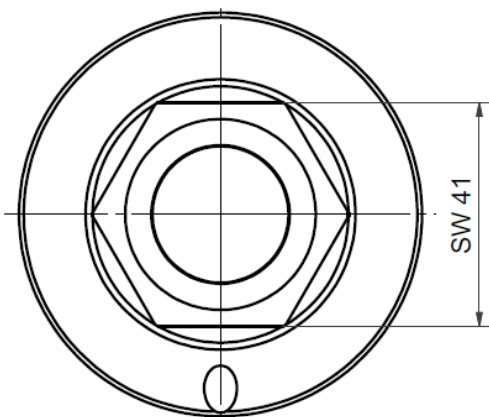

FIGURE 9-3 Inlet Valve Body Hex
8. Unscrew the valve body from the compressor housing using the hex pattern provided on the valve body, see Figure 9-3 for details.